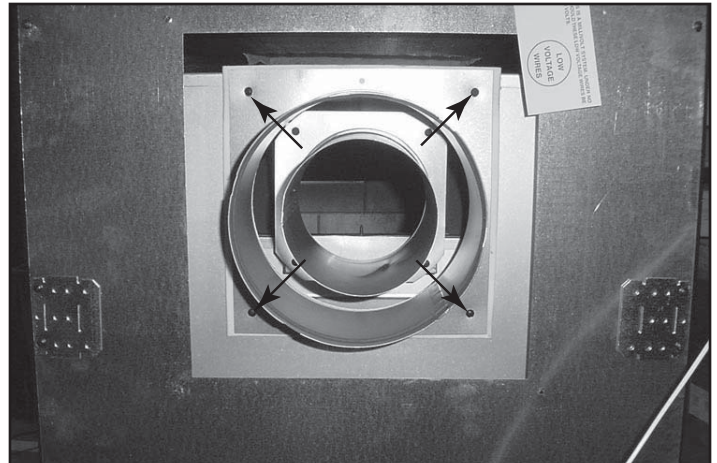

Figure 7.8 Attach Outer Collar
- Place outer collar on rear of appliance and replace four screws to hold collar in place. See Figure 7.8. Make sure insulation is attached to the collar base!